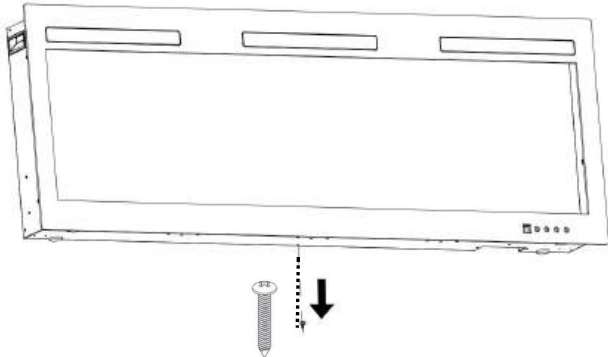

Fig 4-1
A. Remove the silver screw at the bottom of the appliance. (**Fig 4-1**). Set the screw aside.